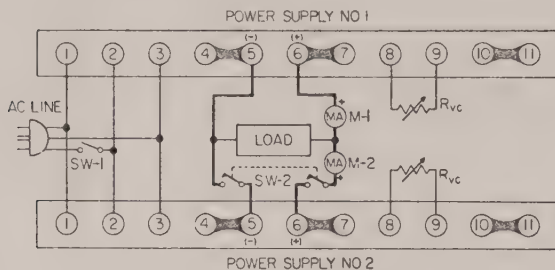

FIG. 3-11 PARALLEL CONNECTION OF PAX SUPPLIES
3-41 Procedure (Refer to Fig. 3-11)
a) Connect units as shown in Fig. 3-11. Open SW-1 and SW-2 and connect to line.